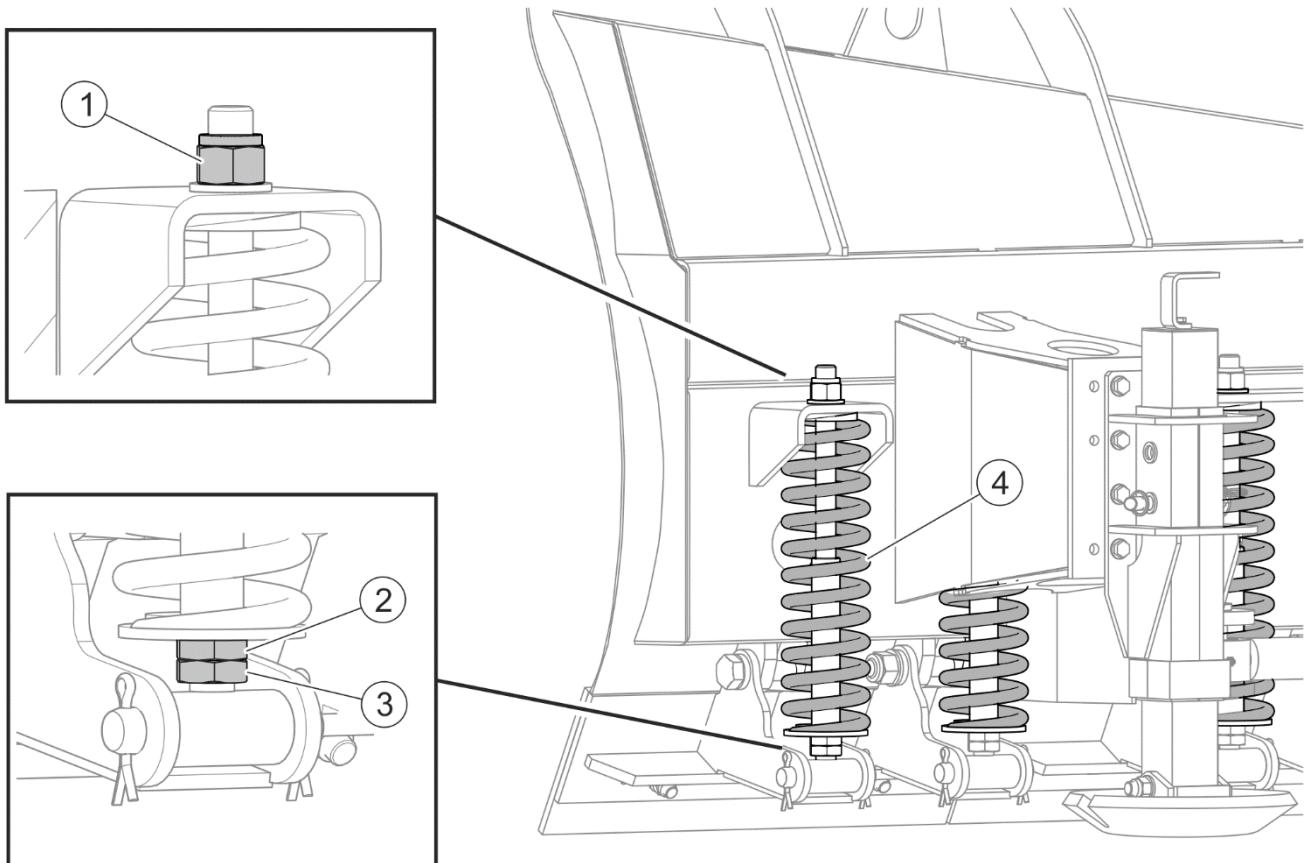

FIGURE 5.13 Adjustment of collecting blades
The snow plough is equipped with swinging segments of collecting blades. When an obstacle is encountered, individual segments of collecting blades (FIGURE 5.13) can independently swing backward and return to working position thanks to shock absorbing springs (4). Inclination of blades and tension of springs can be adjusted. Blade segment inclination angle is adjusted using nut (1) while spring (4) tension can be adjusted using nut (2) after loosening counter nut (3).